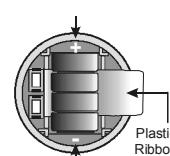

Figure 11: Battery compartment
- Replace with fresh ones. Note polarity as shown in figure 11.